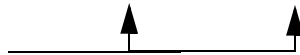

Figure 2-15 Test Points for Adjusting Voltage Using a DVM
2. Connect a digital voltmeter from one of the common negative terminals on the circuit board and the small test point located to the left of each potentiometer at the nine o'clock position. See Figure 2-15.